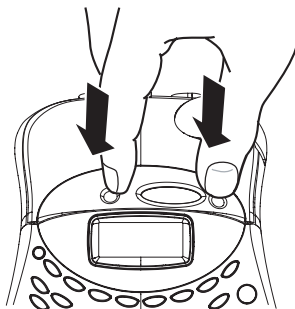

Figure 3
1. Press and release the tape cassette cover to open the tape compartment. See Figure 3.